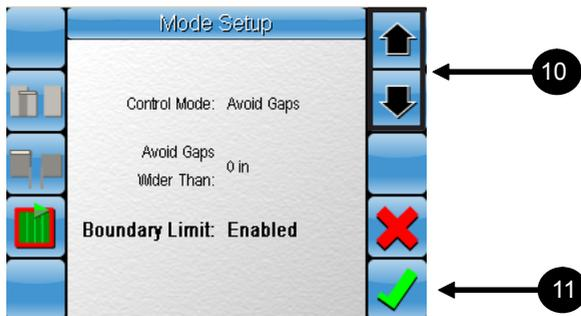

Figure 2-6. Boundary Limit
- Select  (figure 2-6) to confirm